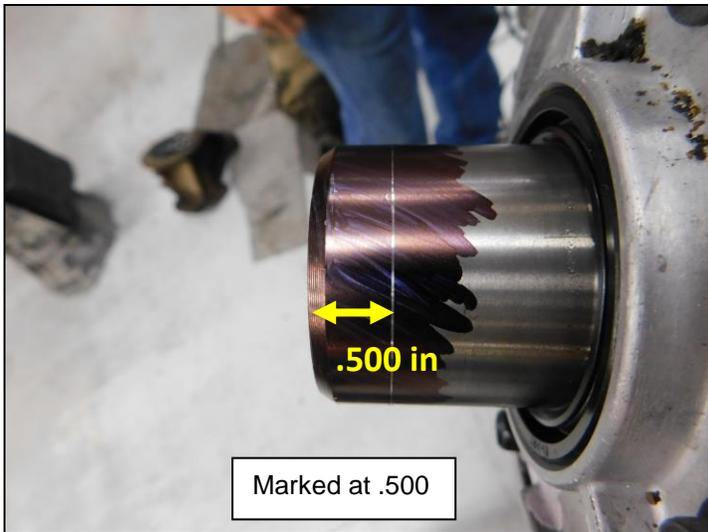

Figure 5
1. Coat the input shaft of the 241D transfer case with a black sharpie or machinist dye. Use calipers to make a witness mark around the outside of the shaft .500" from the end of the shaft (**Figure 5**).